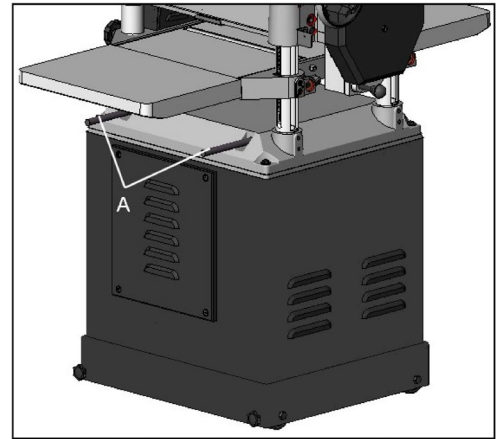

Fig. 1
The planer has four lifting handles (A), that can be pulled out when needed. (Fig.1)